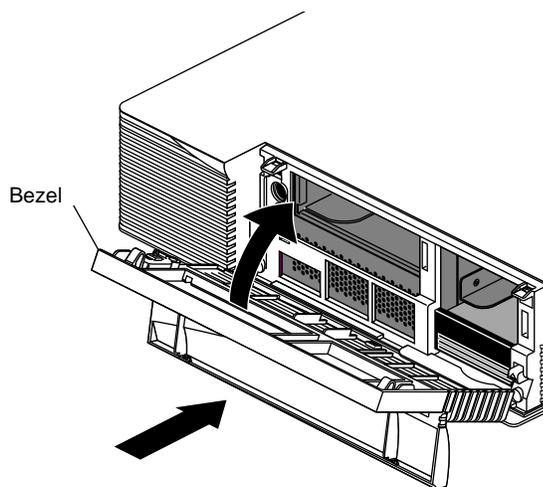

Figure 2-23 Replacing the Bezel
- Place the tabs on the bottom of the bezel in the grooves in the front of the chassis, as shown in Figure 2-23.